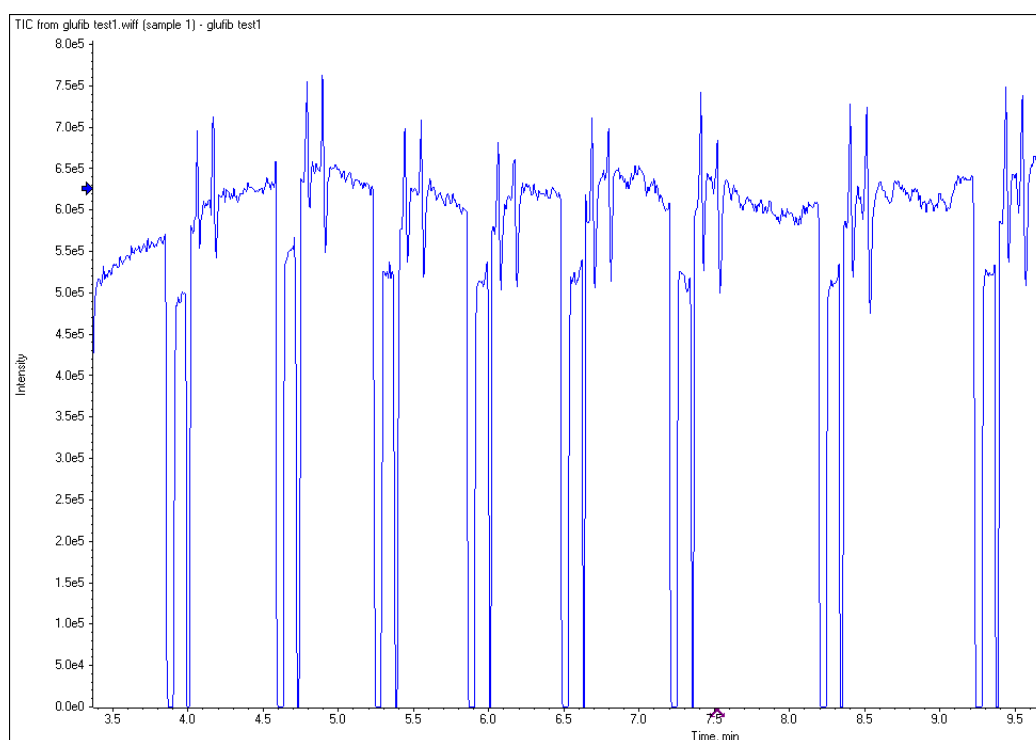

Figure 3-24 Typical TIC of an unstable spray induced by air bubbles
- Unstable spray appears as shown in Figure 3-24 (typical unstable spray induced by air bubbles).